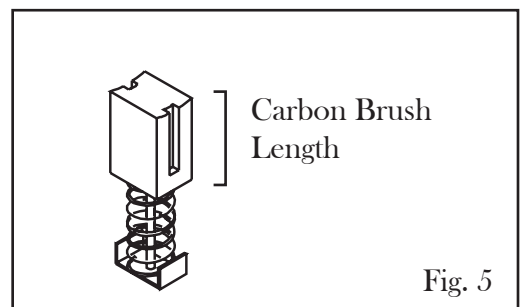

Fig. 5
2. Take out and inspect the carbon brushes (Fig. 5). If the brushes are worn to under 1/8 inch in length, replace them with new carbon brushes. Both carbon brushes should be replaced at the same time.